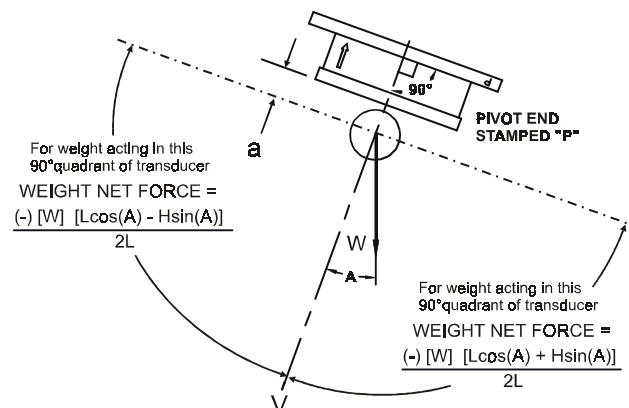

Figure 5 - FORMULAS FOR NET FORCE FROM ROLL WEIGHT
To select the correct load rating for an SUPB transducer (to be used in a pair), look at Figures 5 & 6. You will need to calculate Net Force from Roll Weight and Net Force from Tension being sure to maintain their current algebraic sign (+,-). The sum of these net force components equals the Total Net Force used to select the correct load rating.
- Refer to the Diagram 1 (Fig. 5) formulas for Net Force from Roll Weight. Determine whether the roll weight will be pushing toward or pulling away from the top plate, and whether the direction of the weight from the center of the roll is pointed in the 90° quadrant on the left or the right of line V (observe the pivot end marked “P”).